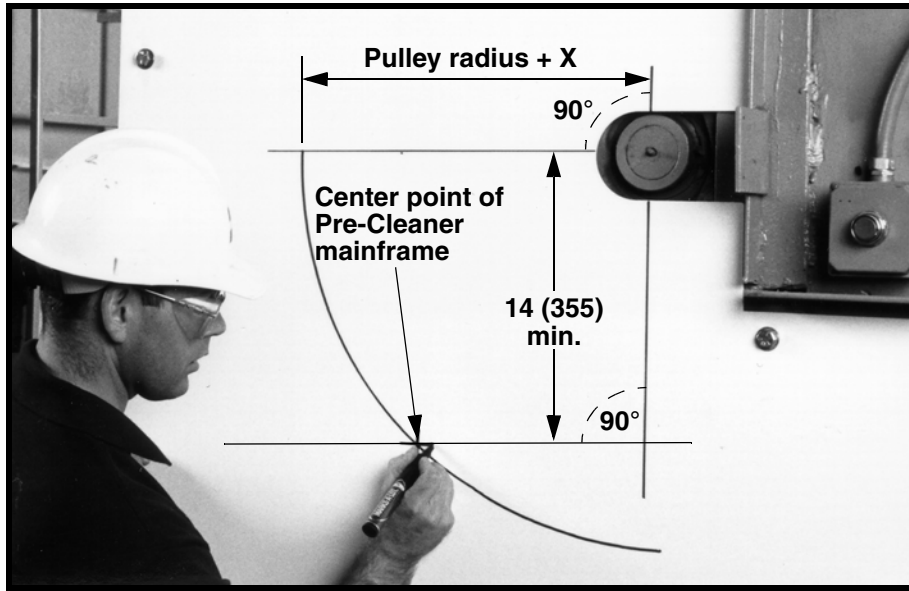

**Figure 1. Drawing arc to locate pre-cleaner mainframe**
1. See Figure 1 and Table I. On operator side chute wall, mark vertical and horizontal center line of head pulley and draw an arc as shown.